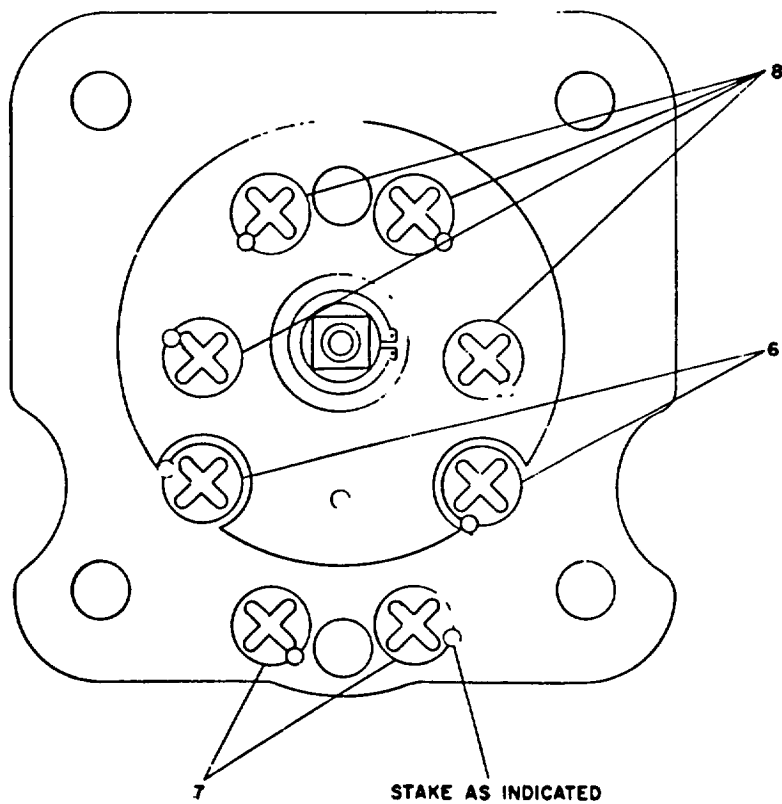

Figure 5-2. Oil Pump, Staking After Reassembly
Check that each screws goes into its correct location as indicated in figure 5-2.
(6) is 1/2-inch long
(7) is 7/16-inch long
(8) is 5/8-inch long
(g) After screws (6), (7) and (8) are tightened, stake each screw as shown in figure 5-2.
(2) Test reassembled oil pump as follows: